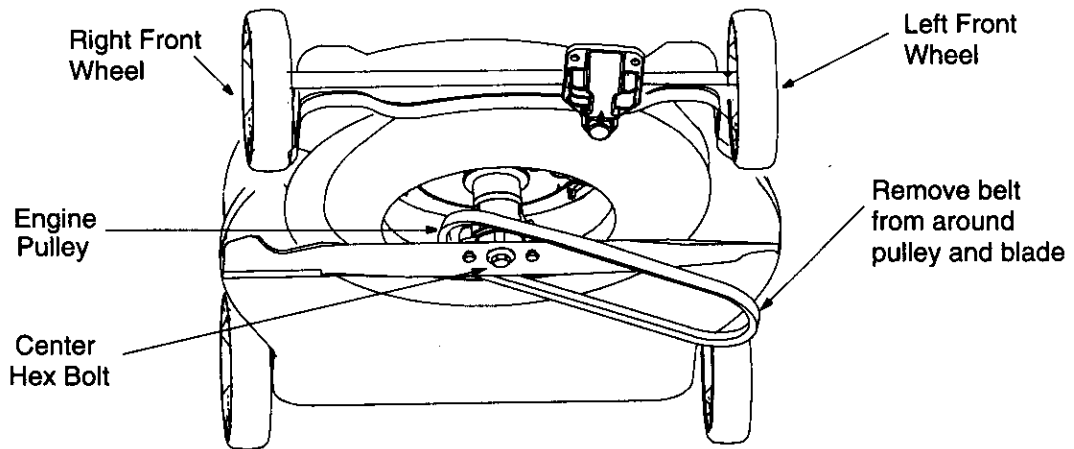

FIGURE 12
- Remove the belt from the engine pulley and around the blade. See Figure 12.